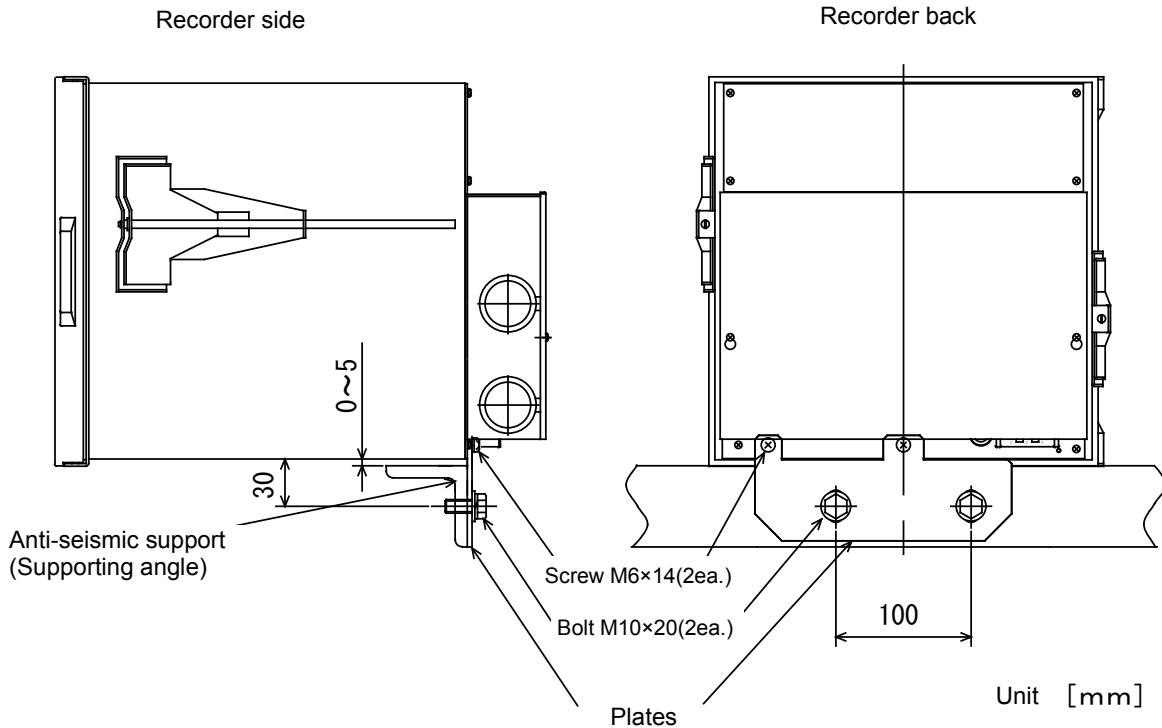

Figure 3.7 Securing the case rear (anti-seismic specification)
(2) Mount the components specified in (1) above on the reinforcement angle as shown in Figure 3.7.